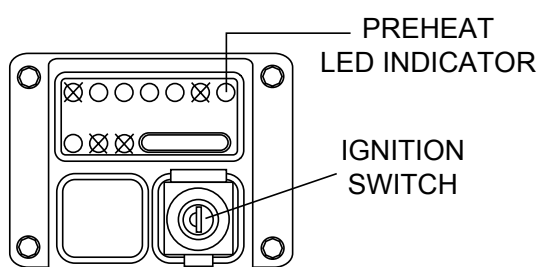

Figure 21. Ignition Switch
2. Insert the ignition key into the ignition key switch (Figure 21). Turn the ignition key clockwise one click to the **ON** position. The preheat indicator lamp will light. Wait for this indicator lamp to go **OFF**. When the indicator lamp goes **OFF**, the glow plugs have been preheated and the engine can now be started.